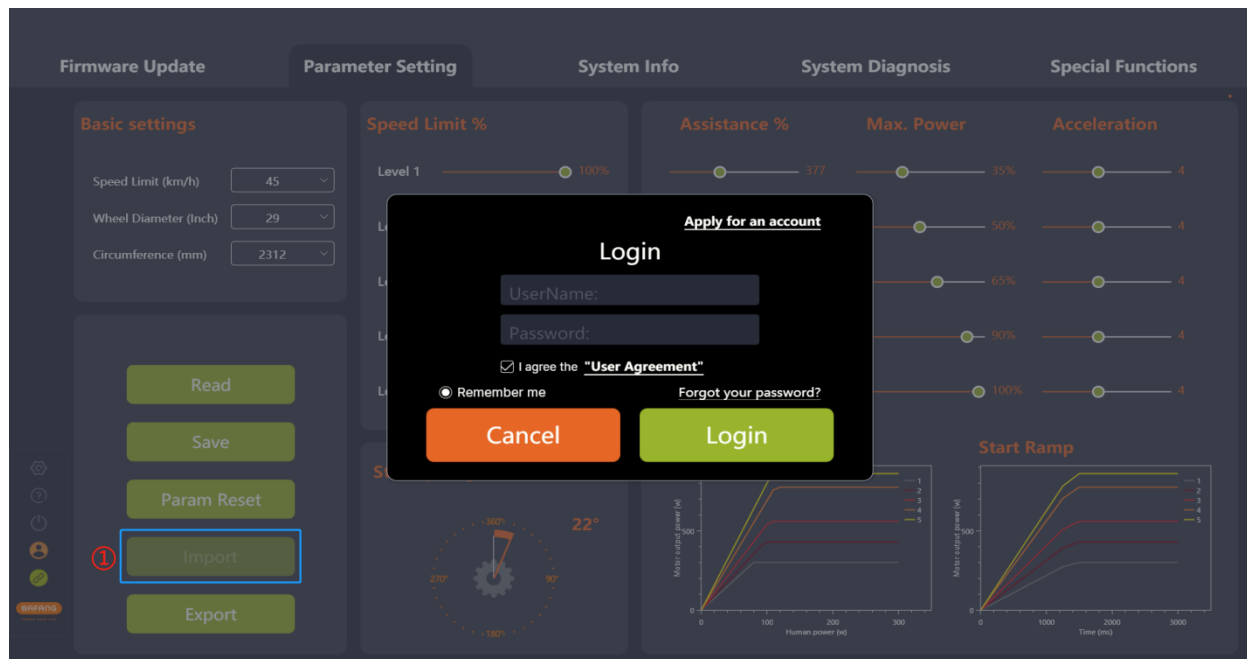

Fig. 5-17 Param reset
- (1) If you want to import the previously generated configuration file (in XML format) to the controller, click the “Import” icon. Note: If not logged in will pop up the login interface, will prompt the user to log in (Fig.5-17).
- (2) Validation rules: The hardware version of the imported controller and the hardware version of the controller in the parameter file are consistent. If not consistent, a prompt should be given and the import should be rejected.
- (3) Select the local parameter configuration file.
- (4) Click the “Open” icon.